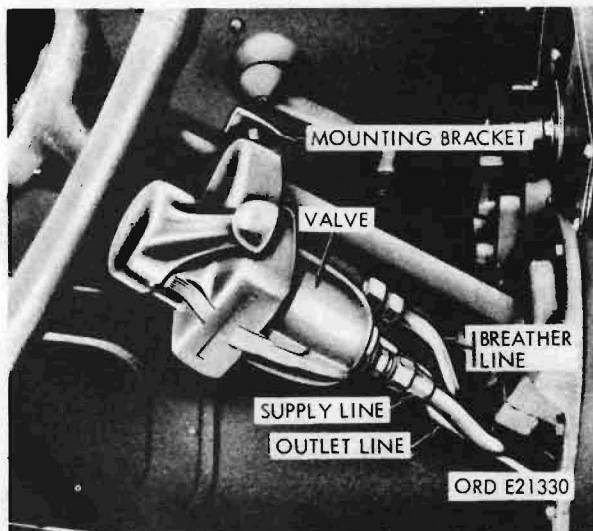

Figure 61. Air brake hand control valve
- (2) Airbrake hand-control valve (fig. 61). The airbrake hand-control valve, located on the steering column, is moved down to control the semitrailer airbrakes.